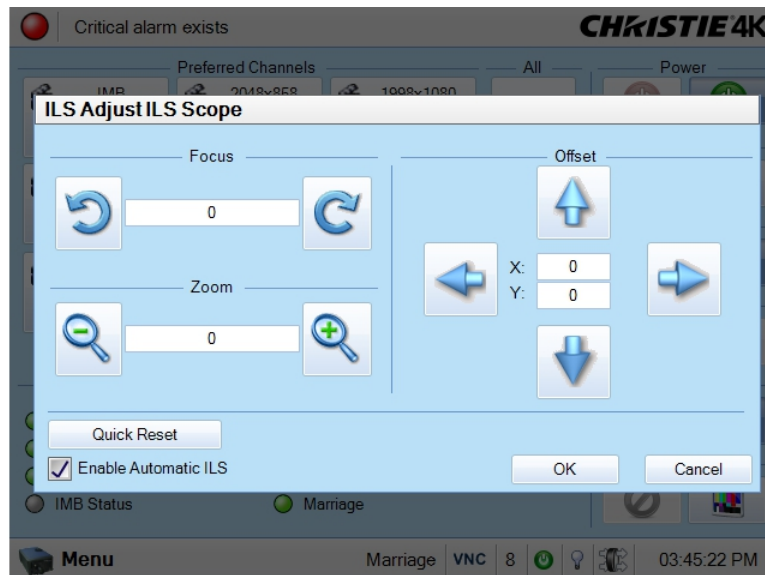

Figure 3-2 Quick Launch Intelligent Lens System
The Motorized Intelligent Lens System (ILS) adjusts the Focus, Horizontal (X) and Vertical (Y) Offset, and Zoom settings automatically. (Figure 3-2). **NOTE: The Intelligent Lens System can be removed. When reinstalling the ILS, ensure the ILS Installed check box in the Advanced Setup: Lens Setup window is selected.**